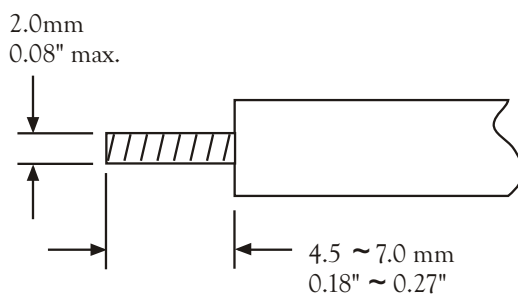

Figure 2.2 Lead Termination
- The "stripped" leads as specified in Figure 2.2 below are used for power and sensor connections.